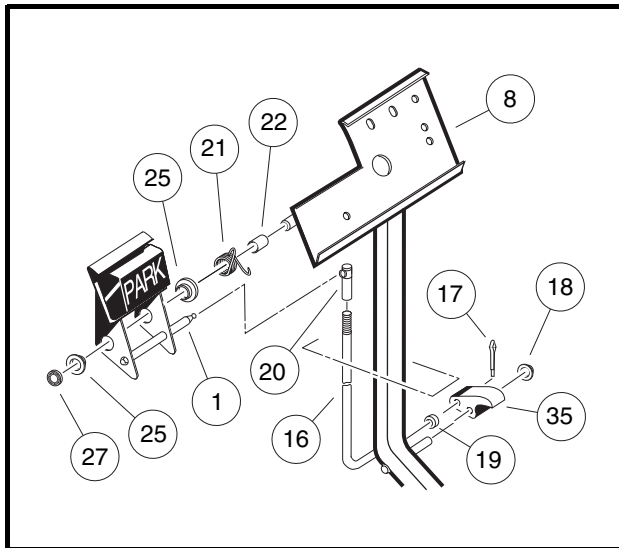
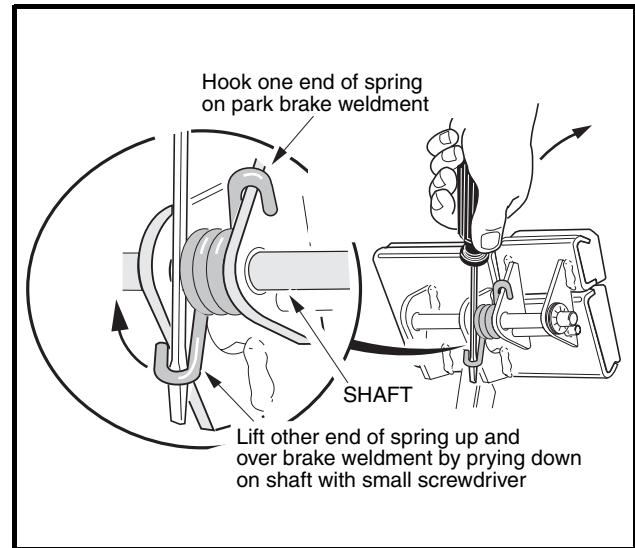

Figure 5-3 Park Brake Assembly
Figure 5-4 Torsion Spring Installation
NOTE: New push nuts (18) and (27) must be used when reassembling the park brake (**Figure 5-3, Page 5-4**).
- 3.2. To remove the park brake pedal (1), remove the push nut (27), disconnect the torsion spring (21) (**Figure 5-3, Page 5-4**) and slide the pedal off of the shaft. **See preceding NOTE.**
1. From the bottom side of the floorboard, insert the park brake rod (16) through the brake pedal assembly opening. Then install the park brake pawl (35) onto the shaft on the brake pedal assembly (8) and also insert the park brake rod (16) into the park brake pawl.
2. Install the push nut (18) onto the park brake pawl shaft.
3. Install the spacer (22) and torsion spring (21) on the park brake pedal shaft on the brake pedal assembly.
4. Install the two bushings (25) in the park brake pedal and position the park brake pedal on the shaft on the brake pedal assembly weldment (**Figure 5-3, Page 5-4**). Then attach the ends of the torsion spring to the park brake pedal and to the brake pedal weldment as shown (**Figure 5-4, Page 5-4**).
5. Install the push nut (27) on the park brake pedal shaft (**Figure 5-3, Page 5-4**).
6. Connect park brake rod (16) ball joint to ball stud on park brake pedal assembly.